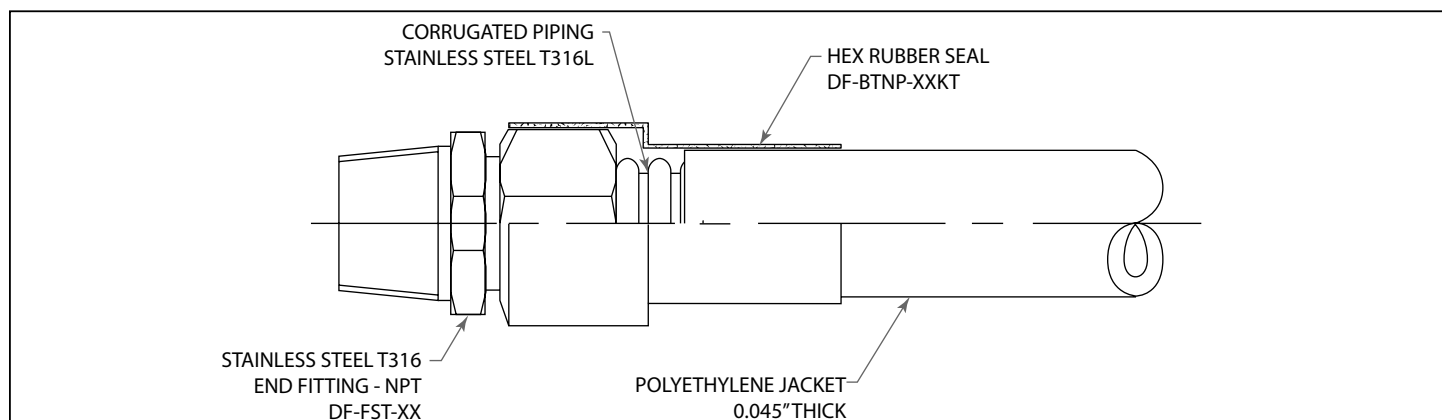

Figure 8-10
**TYPICAL UN-INSULATED END CONFIGURATION – Band clamps removed for clarity. (Figure 8-10)**